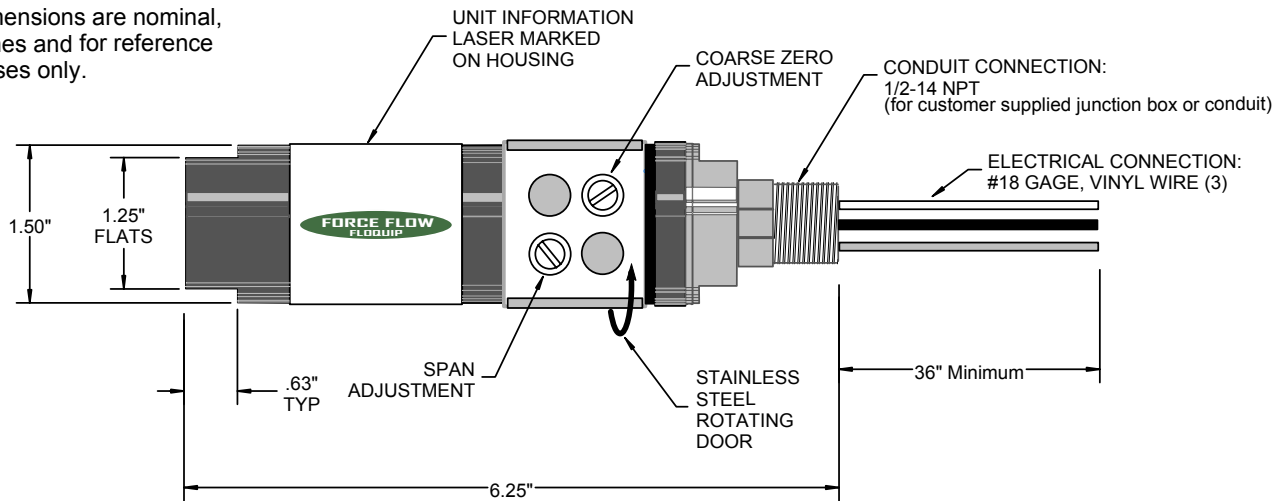

FIGURE 1
4. The Transmitter has been factory calibrated. DO NOT adjust the ZERO or SPAN setting (Refer to Figure 1)
6. When correctly installed this transmitter has a FIVE (5) YEAR WARRANTY from date of shipment.